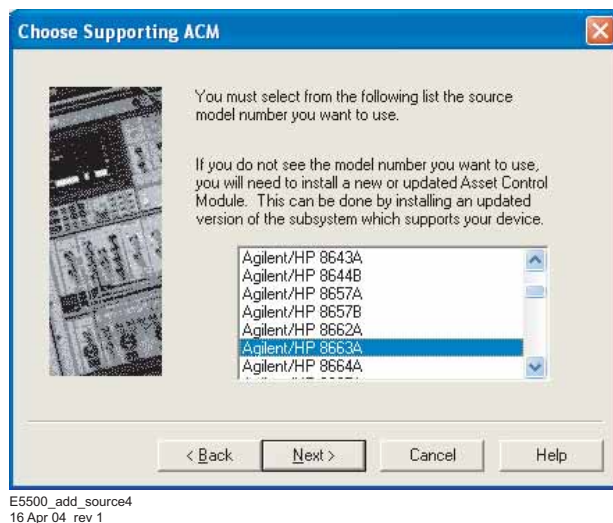

Figure 16 Choose source
- 4 Click on the source to be added, then click the **Next** button (see Figure 16).